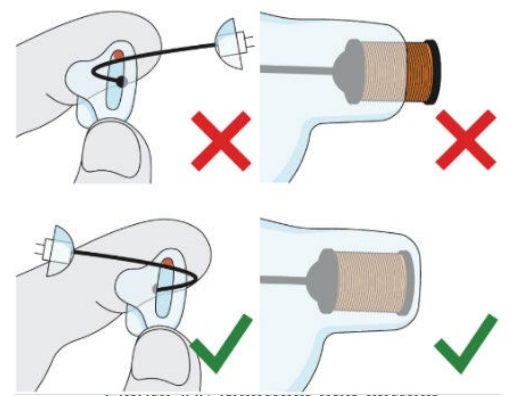

Figure 44: Incorrect and correct cable orientation (left panel) and coil positioning (right panel)
- Check to make sure that the cable curvature is oriented in the same direction as the positioning lip (Figure 44). If it is not, remove the cable, reorient, and repeat the insertion step.
- The transmitter coil must be within and should not protrude beyond the medial end of the shell (Figure 44). If the coil is over-inserted, pull the cable in the lateral direction to seat the cable into the coil pocket.